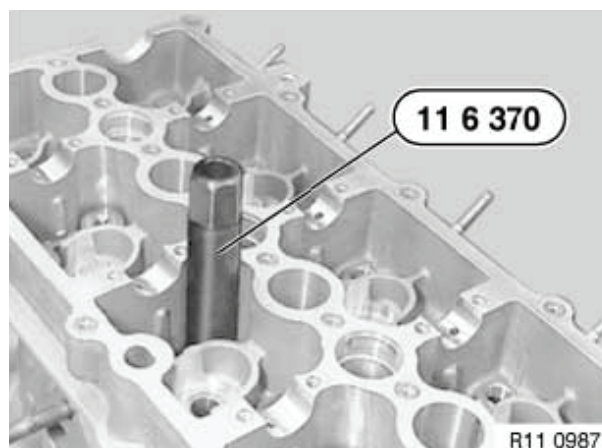

Figure 5-28
2. Press special tool OEM No. 11 6 370 onto valve stem seal and turn (**Figure 5-28**).